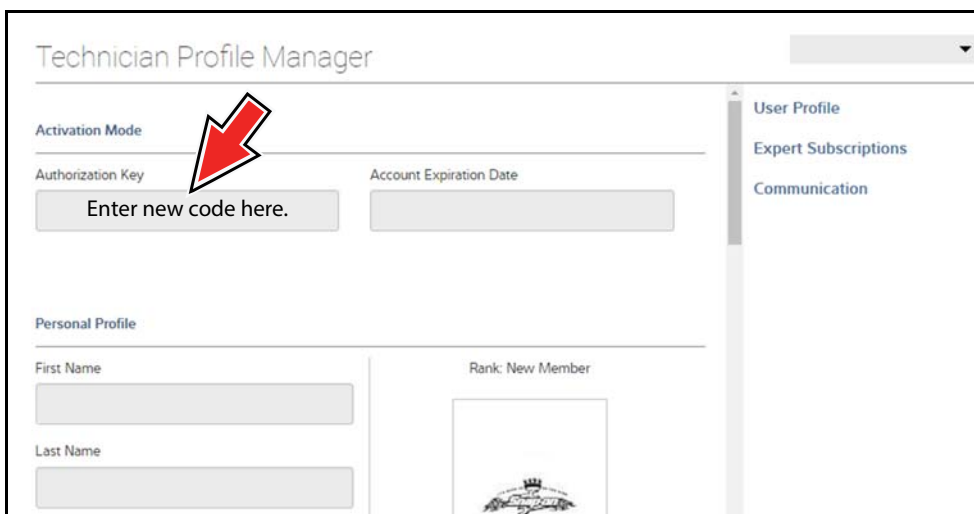

Figure 15-14
3. Log in to the Profile Manger (Figure 15-14) using your current username and password.
4. Enter your new **Authorization code** (Figure 15-14).